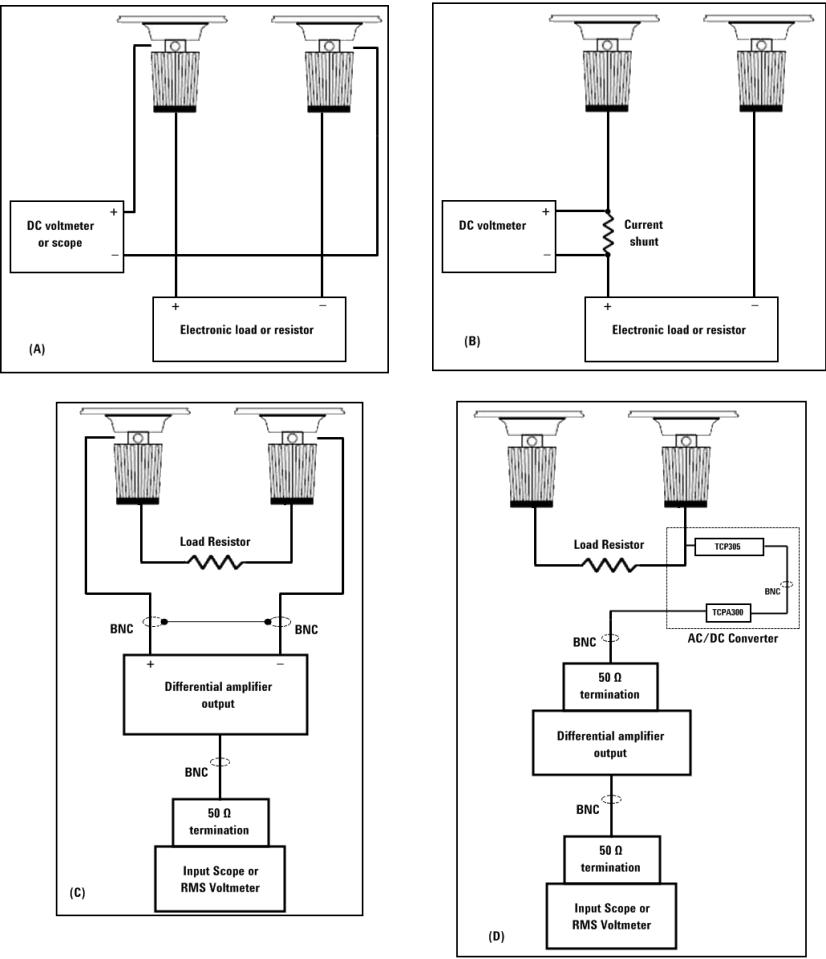

Figure 5-3 Test Setups
- 1** Power off the power supply and connect a DMM between the (+) and (-) terminals of the output to be tested as shown in **Figure 5-3(A)**.
- 1** Power off the power supply and connect a DMM between the (+) and (-) terminals of the output as shown in **Figure 5-3(A)**.
- 1 Power off the power supply and connect a DMM between the (+) and (-) terminals of the output to be tested as shown in **Figure 5-3(A)**.
- 1 Power off the power supply and connect the output to be tested as shown in **Figure 5-3(C)** to a differential amplifier and load resistor (10 Ω for U8001A and 6 Ω for U8002A)
- 1 Power off the power supply and connect the output to be tested as shown in **Figure 5-3(A)** with an oscilloscope. Operate the electronic load in constant current mode.
- 1** Power off the power supply and connect a 0.01 Ω current shunt monitoring resistor (R_M) across the output to be tested and a DMM across the current monitoring resistor (R_M) as shown in **Figure 5-3(B)**.